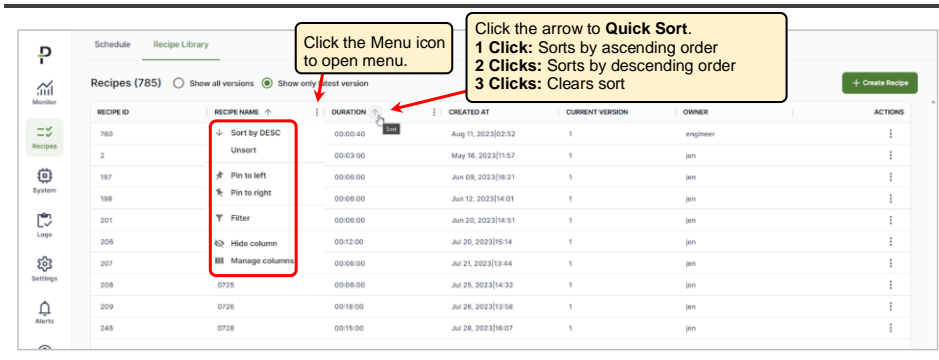

Figure 24: Recipe Library Name Column Sorted in Ascending Order
By default, the recipes list/library is sorted by the ascending order of the recipe name. The **Sort/Filter/Hide/Show Columns** menu accessible in each column enables the user to organize the recipe library listing by column and to narrow searches for a particular recipe. **Quick Sort** is described in Figure 24.
- **Sort by ASC:** Clicking this in any column arranges the list in **ascending** order, either numerically or alphabetically, for that column. Figure 24 shows the **Recipe Name** column has been sorted in ascending order.